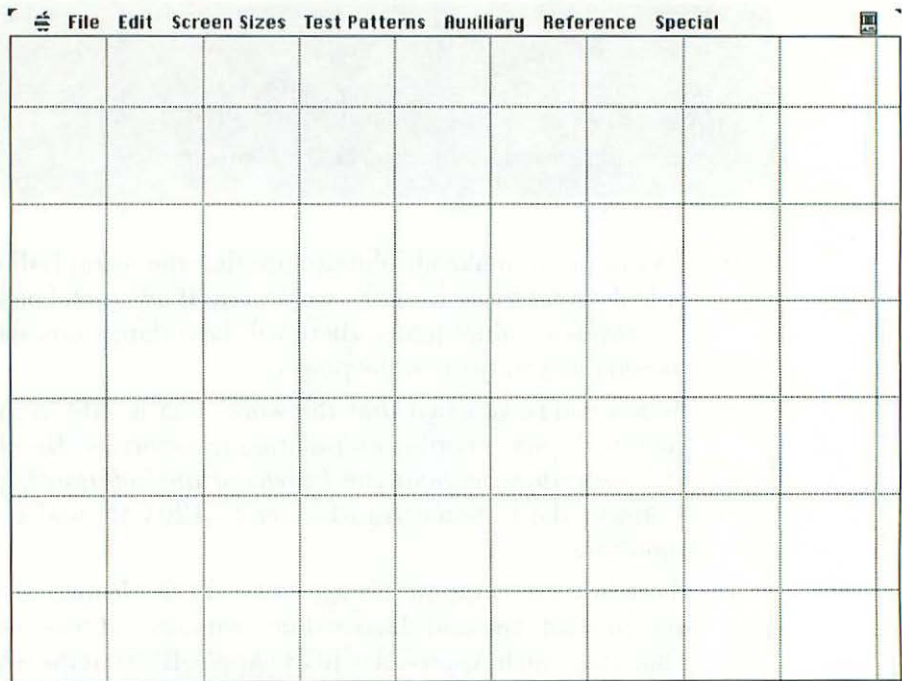
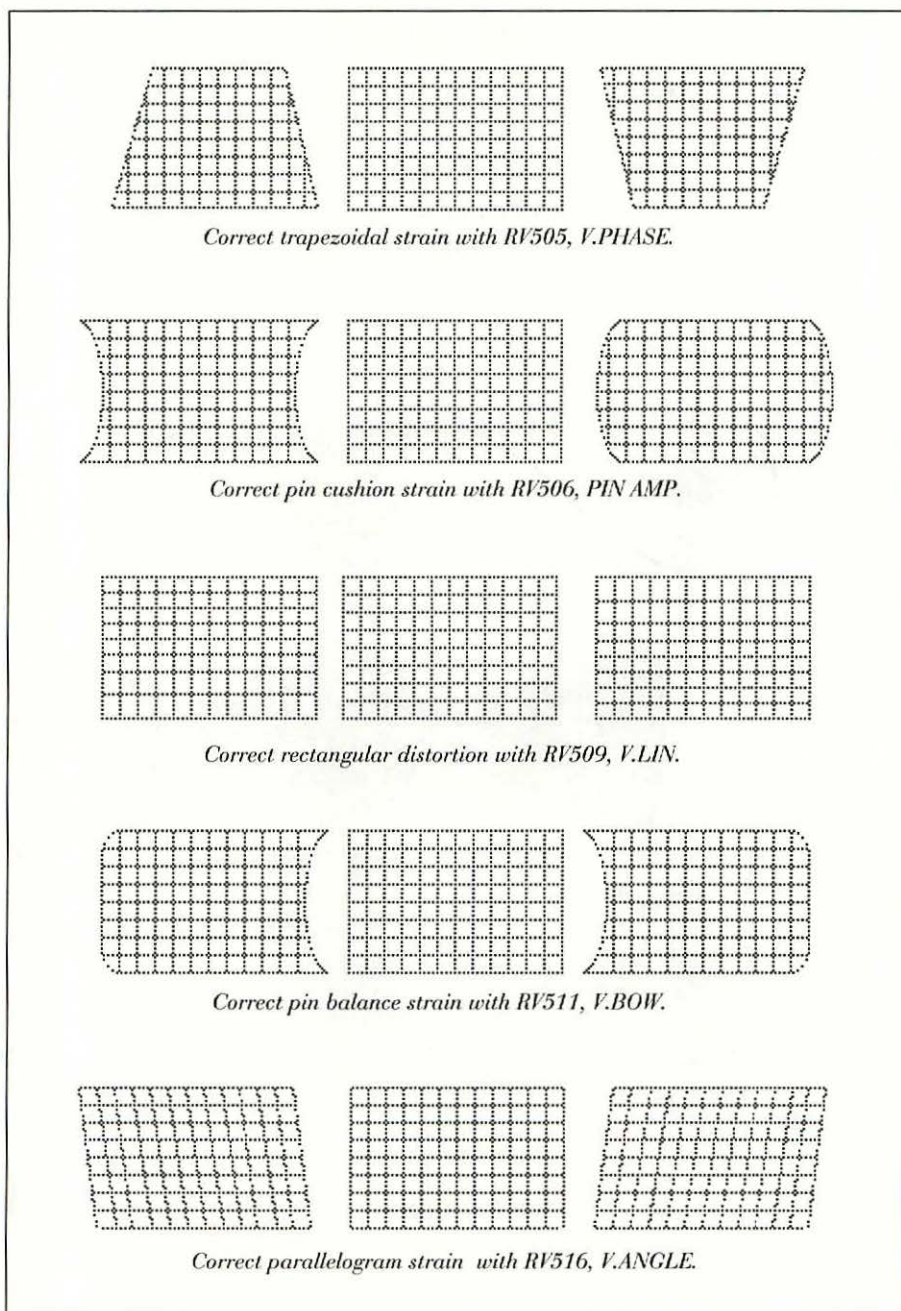

Figure 3-32 The Cross Hatch test pattern hatches the display with regularly spaced grid blocks.
Figure 3-33 Typical linearity problems.
When the height and width measurements are correct but the monitor displays one or more of the linearity problems illustrated in Figure 3-33, it's usually because the "D" board inside the cabinet has been swapped. In that case, various controls on the replacement board will have to be adjusted as well. To reach the controls, the back cabinet has to be removed. That exposes you to dangerous high voltage and the possibility of electric shock. As explained in Chapter 1, an isolation transformer must be used to minimize the shock hazard. With the understanding that the following information is only for qualified radio/TV-repair technicians working in fully equipped shops, here's the general linearity adjustment procedure:
12. Choose Cross Hatch (Apple-G) from the Test Patterns menu. As shown in Figure 3-32, this test hatches the display with regularly spaced grid blocks. The distance between the blocks is 1 inch or 1 centimeter (approximately $\frac{7}{16}$ of an inch) depending on which measuring system is in effect. If the linearity is adjusted properly, all of the grid lines should be straight. The display should be perfectly square. Blocks at the top of the screen should be exactly the same size as blocks at the bottom of the screen. Typical linearity problems are shown in Figure 3-33.